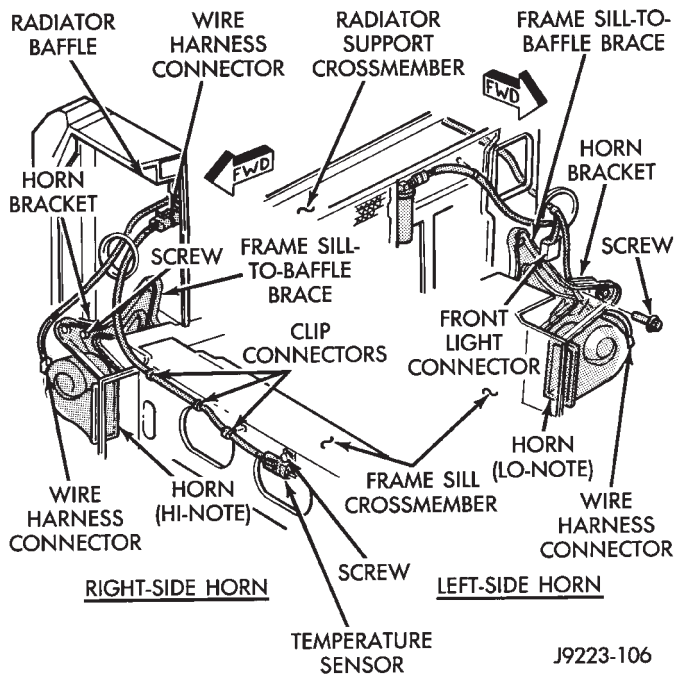

Fig. 11 Horns, Baffle Braces & Wire Harnesses
- (4) If additional disassembly is required, remove the horns, baffle braces and the wire harnesses from the baffles (Fig. 11).
- (1) If removed, install the horns, baffle braces and the wire harnesses on the baffles (Fig. 11).
- (2) Position the radiator and the radiator support